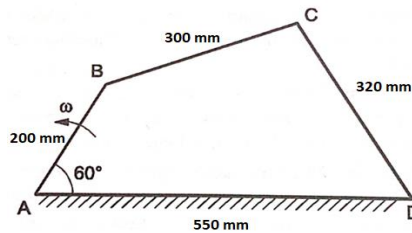

Fig.2.
- 3) In a four bar mechanism as shown in Fig.2 AB = 200 mm, BC = 300 mm, CD = 320 mm and AD = 550 mm. Crank AB rotates at a uniform speed 200 rpm in anticlockwise direction. When the crank AB has turned 60°, locate all the instantaneous centers and find the angular velocity of link BC.